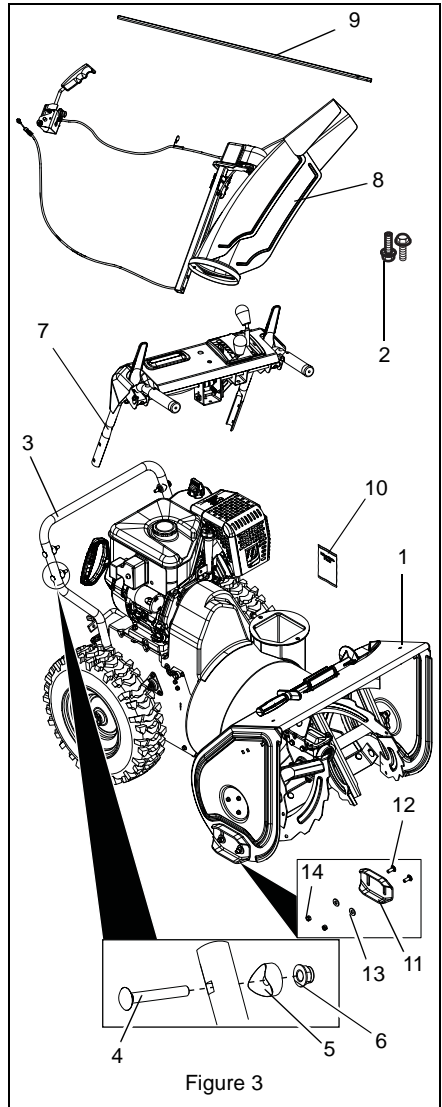

Figure 3
Check the contents of your package for the parts listed below (Figure 3):
2. Secure lower handlebar to unit using two  $3/8 \times 3/4$ " hex head serrated flange grade 5 bolts (Figure 3, Item 2).